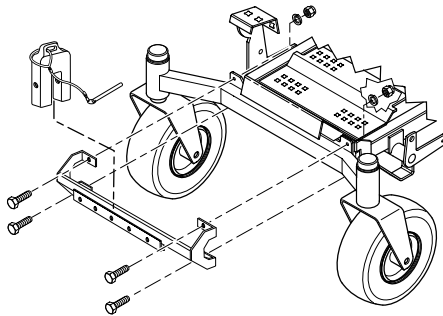

FIGURE 3-7
15. Using the weight support bar (p/n 451517) as a guide, identify the four corresponding mounting holes, and the existing hardware that will need to be removed in order to secure the weight support bar to the front of the machine as shown. See Figure 3-7.
16. Install one (1) 7/16-14 x 1-3/4" hex head bolt into each of the four (4) mounting holes in the weight support bar, and through the matching holes in the caster support weldment. Secure this assembly to the front of the machine using the 7/16- .5" x 1-1/4" x .083" flatwashers and the 7/16-14 elastic stop nuts. Torque hardware to 59 ft. lbs. See Figure 3-7.